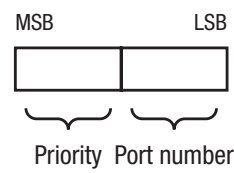

Figure 45: Port Identifier
- If two paths with the same root path costs lead out from a bridge, the port identifier is used as the last criterion (see fig. 45). This decides which port is selected.